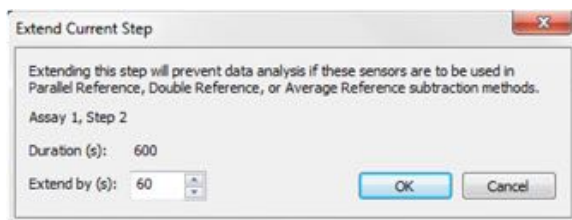

Figure 9-66: Extend Current Step Dialog Box
2. In the **Extend Current Step** dialog box (see Figure 9-66), enter the number of seconds to extend the step and click **OK**.